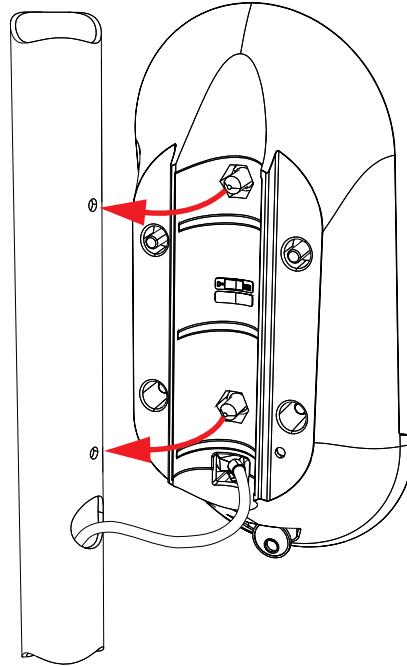

Figure 6-30 Pole Installation
STEP 10: and then place the OV|41 onto the pole by inserting the studs in the designated holes. The studs prevent the OV|41 from twisting on the pole (**Figure 6-30**).